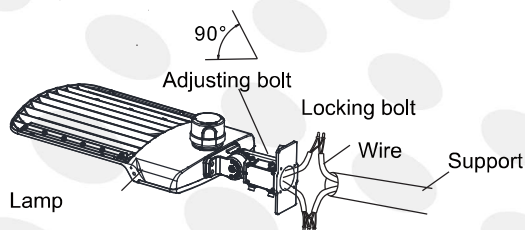

Figure 14
Step 2: Loosen the four bolts on ADM bracket, connect the wires correctly and pull the wires into the poles. (Figure 14)
Step 3: Place the bracket into the pole and lock the four bolts. (Figure 14)
Notice: Adjustable angle is 0-90° (Figure 14)